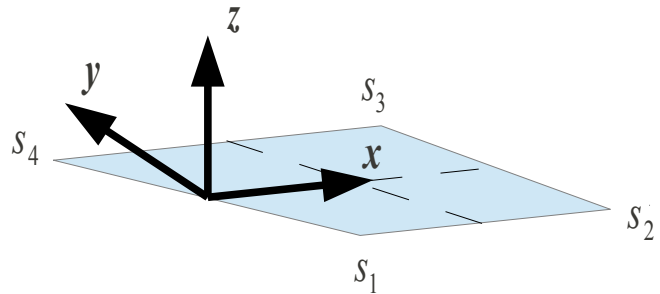

Figure 3.4-2: Intrinsic reference mark for a mesh of the type QUAD4
- For a quadrangle (cf. Figure 3.4-2) whose tops are numbered of s_1 with s_4 and whose mediums on the sides are numbered of m_1 (medium of s_1s_2) with m_4 (medium of s_4s_1): it is the reference mark formed by $x=m_4m_2$, $y=z \wedge x$, $z=m_4m_2 \wedge m_1m_3$